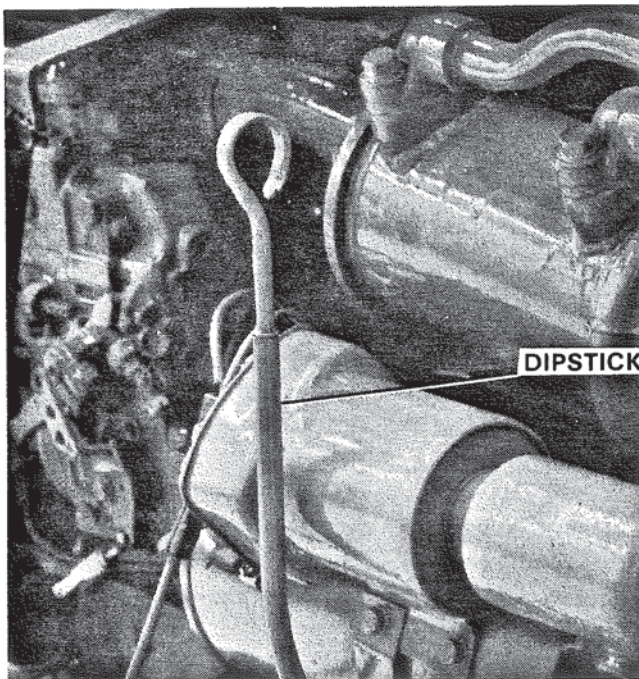
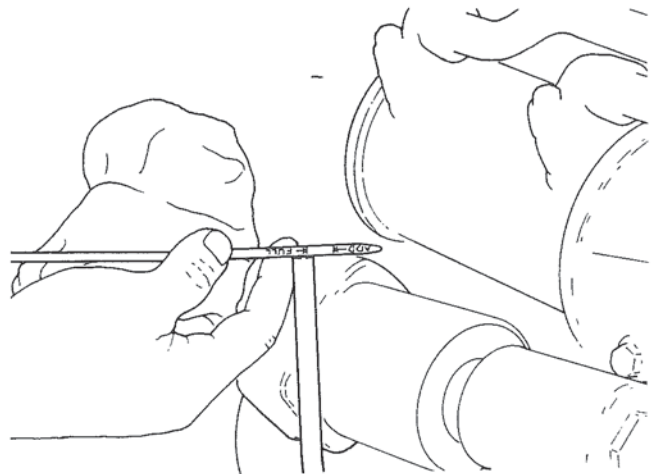

Figure 3. Engine Oil Dipstick.
Figure 4. Engine Oil Level.
1. Engine Oil Level. Inspect engine oil for proper level. Add oil as required, but do not overfill. Engine oil level indicator (dipstick) is located on either side of the engine. Figure 3. Oil level should be maintained between the marks on the dipstick. Figure 4. Engine must not be operated with oil level below the lower mark on the dipstick. For continuous operating conditions, the engine oil level should be checked every 8 hours.